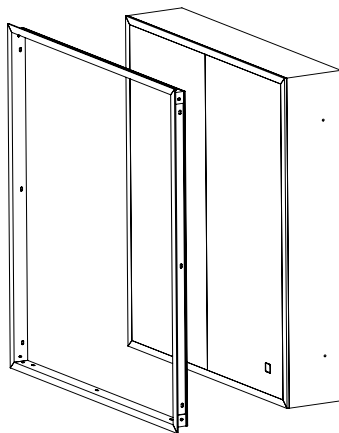

Fig 9.
3. Slide the trim frame over the cabinet and position in line with the securing holes on each side of the cabinet carcass. *See Fig 9*